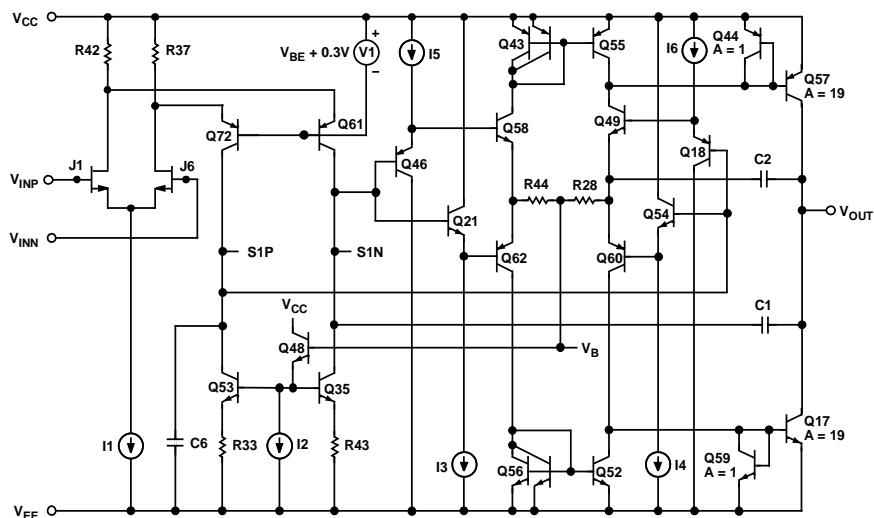

Figure 36. Simplified Schematic
The HT8823 is fabricated on the Analog Devices, Inc. proprietary complementary bipolar (CB) process that enables the construction of PNP and NPN transistors with similar f_T 's in the 600 MHz to 800 MHz region. In addition, the process also features N-Channel JFETs that are used in the input stage of the HT8823. These process features allow the construction of high frequency, low distortion op amps with picoamp input currents. This design uses a differential output input stage to maximize bandwidth and headroom (see Figure 36). The smaller signal swings required on the S1P/S1N outputs reduce the effect of the nonlinear currents due to junction capacitances and improve the distortion performance. With this design, harmonic distortion of better than -91 dB @ 20 kHz into 600 Ω with $V_{OUT} = 4$ V p-p on a single 5 V supply is achieved. The complementary common emitter design of the output stage provides excellent load drive without the need for emitter followers, thereby improving the output range of the device considerably with respect to conventional op amps. The HT8823 can drive 20 mA with the outputs within 0.6 V of the supply rails. The HT8823 also offers outstanding precision for a high speed op amp. Input offset voltages of 1 mV maximum and offset drift of $2 \mu\text{V}/^\circ\text{C}$ are achieved through the use of the Analog Devices advanced thin film trimming techniques.